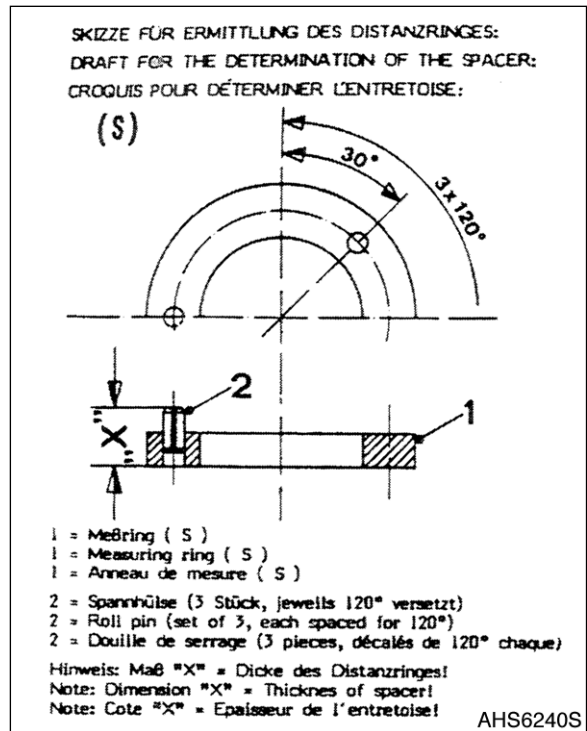

Figure 251
NOTE: Configuration and description of the measuring ring, see Figure 251.
6. Remove measuring ring and determine dimension "X" (see Figure 251).